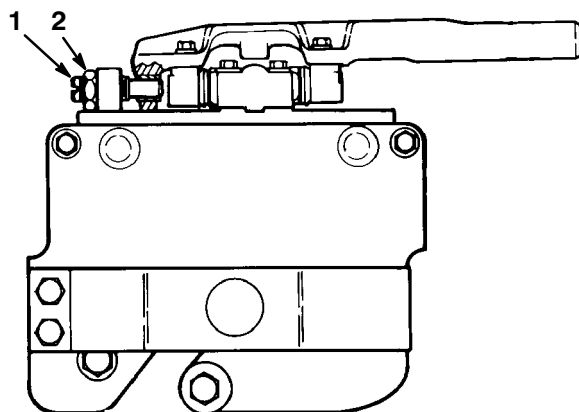

**Figure 14**
1. Start engine and lower the cutting units onto a flat surface such as a piece of 3/4 in. or 1 in. plywood (at least 20 in. x 30 in. in size). Stop engine and remove key from switch. Lock cutting units in the fixed position, by loosening the jam nut on lockout pin (Fig. 14) and screwing pin into hole in pivot arm (Fig. 15). Tighten nut to secure lockout. Raise the front rollers up so they do not contact the flat surface.
5. Loosen lockout pin so cutting unit can float freely (Fig. 14).